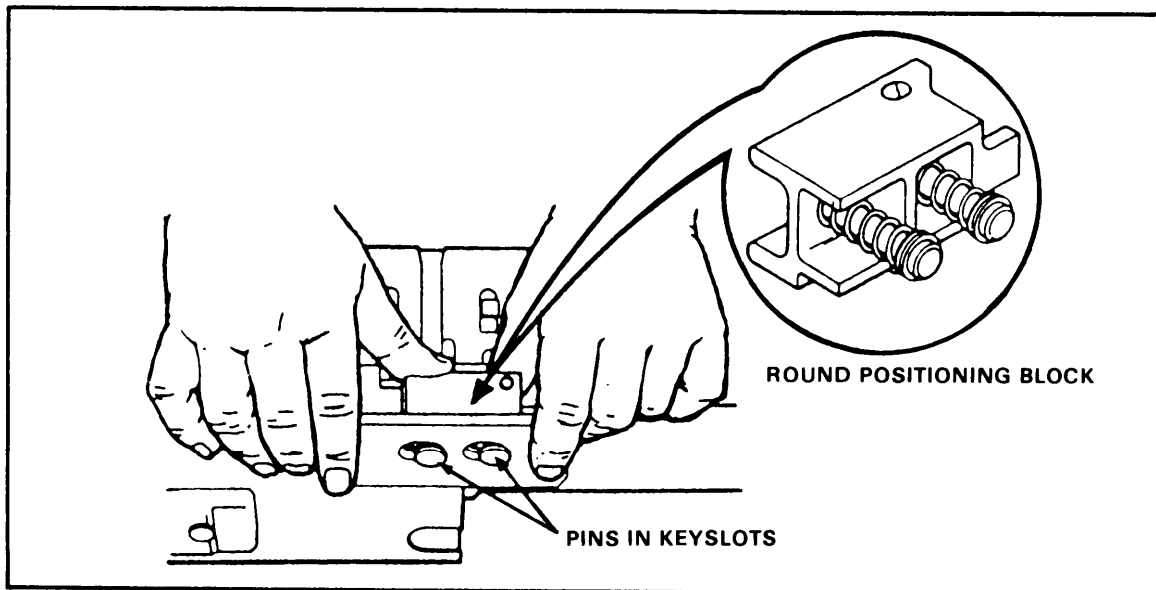

Figure 2-16. Round-positioning block.
(10) Take off the round-positioning block by pushing it into the side of the gun, sliding it forward, and releasing it from the keyslots in the receiver wall (Figure 2-16).